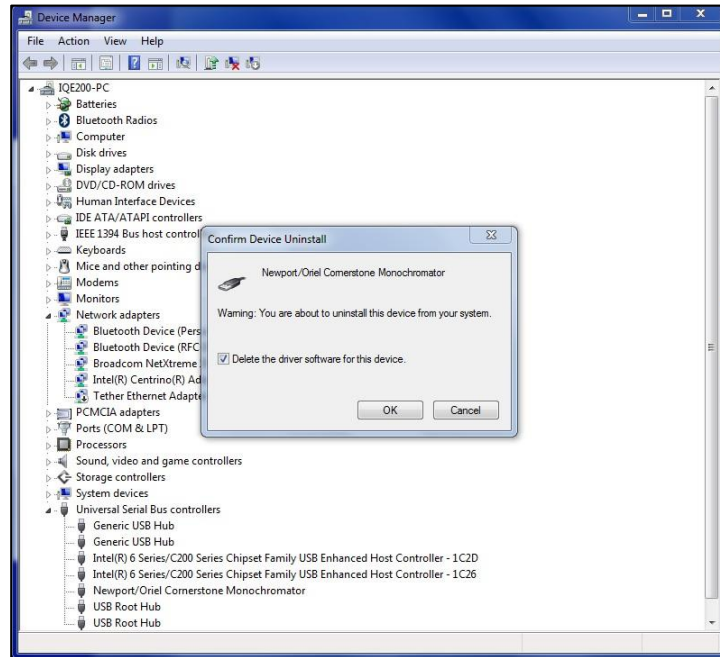

Figure 20: Universal Serial Bus Controllers in Device Manager.
- If the instrument is connected by a USB cable on the computer, then go to the Windows Device Manager. Expand the Universal Serial Bus Controllers (Fig. 20). Right-click on “Newport/Oriel Cornerstone Monochromator” to display the option menu dialog box. Select, “Uninstall”. A confirmation dialog box will appear next. Check the box to “Delete the driver software for this device” and then click, “OK.” Refresh the Device Manager to ensure that the “Newport/Oriel Cornerstone Monochromator” driver was removed.